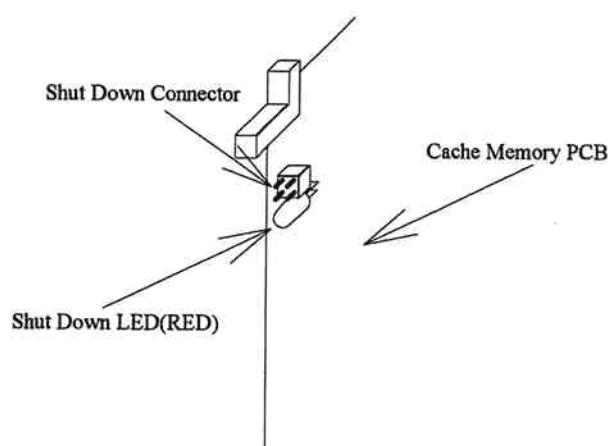

Fig. 3.3.7.4.2-5 Location of the Shut Down LED
- a. While referring to Fig. 3.3.7.4.2-5 and Table 3.3.7.4.2-5, check the Shut Down LED on the Cache Memory PCB in the Logic Box. See "Connection of Shut Down Jumper (INST03-2600)" if the Shut Down LED is not on. (This procedure [1. a.] is not valid for a New Installation.)